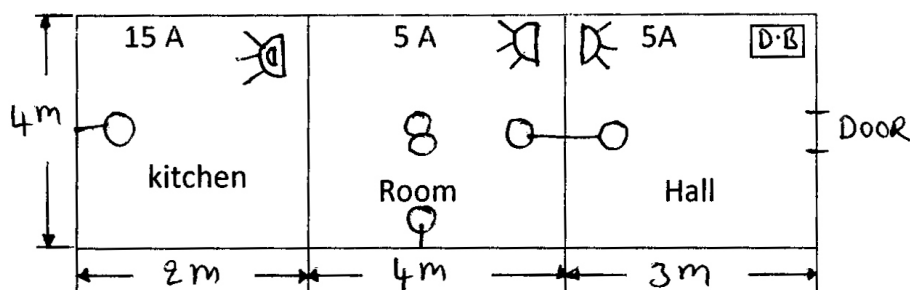

Fig. 1 : Plan of building
**Instructions :** (1) Answer **any five** questions.
(2) Each question carries **ten** marks.
(3) Answers should be comprehensive and the criterion for valuation is the content but not the length of the answer.
12. The plan of residential building is shown in Fig. 1. It is to be provided with CTS system of wiring. Estimate the materials required. Consider wattage of lamps = 60 W, fan = 80 W, 5A socket = 100 W. Also draw the wiring diagram. Assume any missing data.